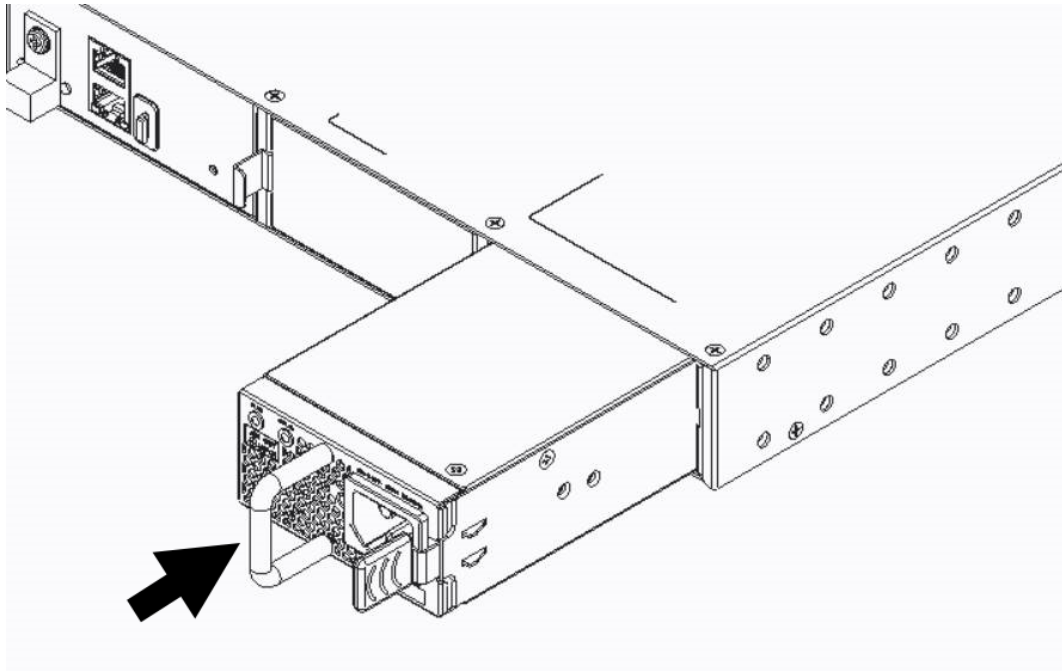

Figure 78: Installing A 550 W AC Power Supply
6. Carefully slide the power supply all the way into the power supply bay, as shown in Figure 78.